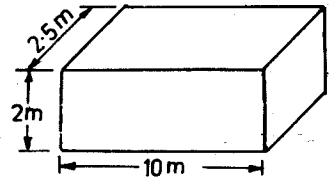

Fig. 11
30. The barge shown in Fig. 11 is 10 m long, 2.5 m wide and 2 m high, and weighs 196200 N. The minimum depth of the water way necessary to carry it will be